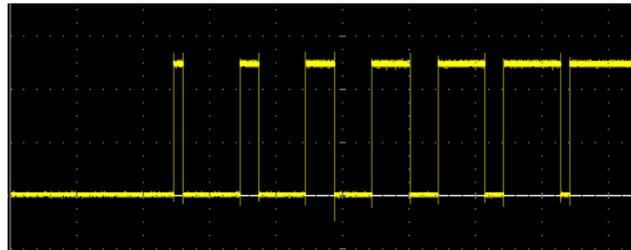

Figure 2-10 Typical PWM Soft Start cycle
- **Soft Start** - As shown in **Figure 2-10**, a soft start increases the PWM duty cycle gradually from 0% up to the configured steady-state value. This feature is useful in preventing premature burnout of devices (such as incandescent bulbs) caused by too rapid heating on startup.